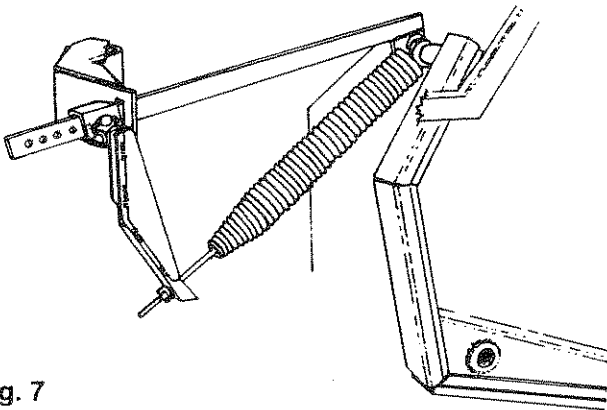

Fig. 7
3. Lower the pickup to the baling position and make sure the pickup fingers do not dig into the ground while operating. Adjust the maximum pickup depth with the depth stop, see Fig. 7.